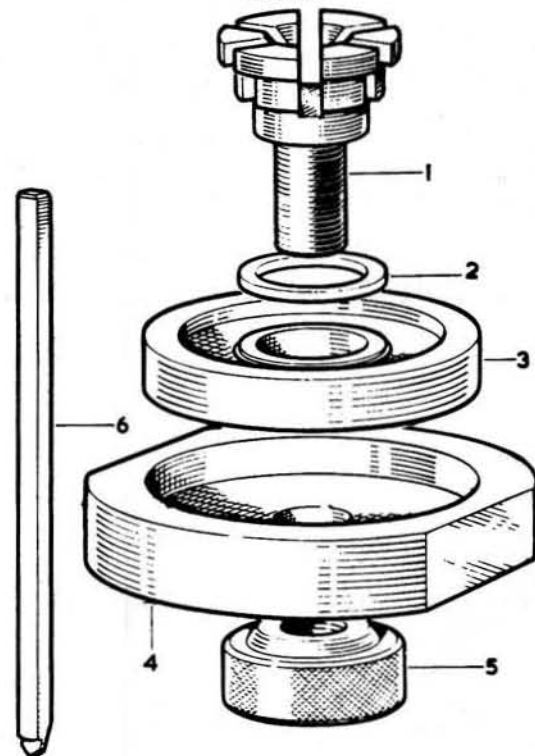

FIG.5.20. SPECIAL TOOL SSC 805
14 The centrally mounted release plate is held in position by a centre sleeve which passes through the diaphragm spring and the Belleville washer into the release plate. To free the plate, collapse the centre sleeve with a hammer and chisel as shown in Fig.5.11. Support the release plate in the locating boss of the special tool, shown at Fig.5.20, which should be held firmly in a vice.
- 34 The pressure plate must now be fitted and for this a special tool is required. The tool number is SSC805 and it can be obtained from Automotive Products Ltd, Service and Spares Division, Banbury, England. The tool is shown in Fig.5.20 for information.